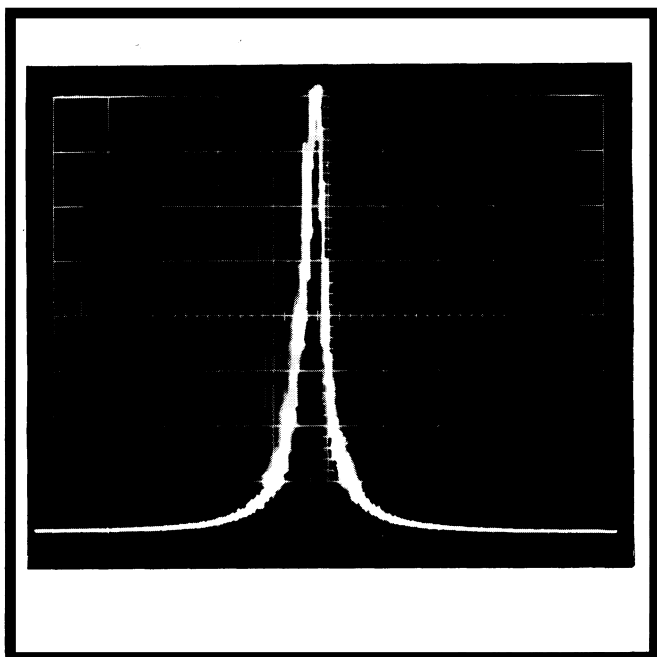

Fig. 5-6. Typical display showing incidental frequency modulation. Measure the horizontal displacement of the signal at the most vertical slope of the signal.
f. Check the amount of signal frequency modulation (see Fig. 5-6). Must not exceed 1 minor division. (≤ 200 Hz).